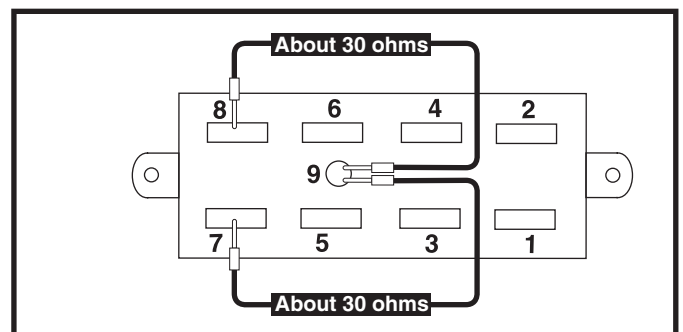

Figure 37. Connector 2a
2. Measure resistance across pin 7 and pin 9 and across pin 8 and pin 9 on connector 2a. **See figure 37.**